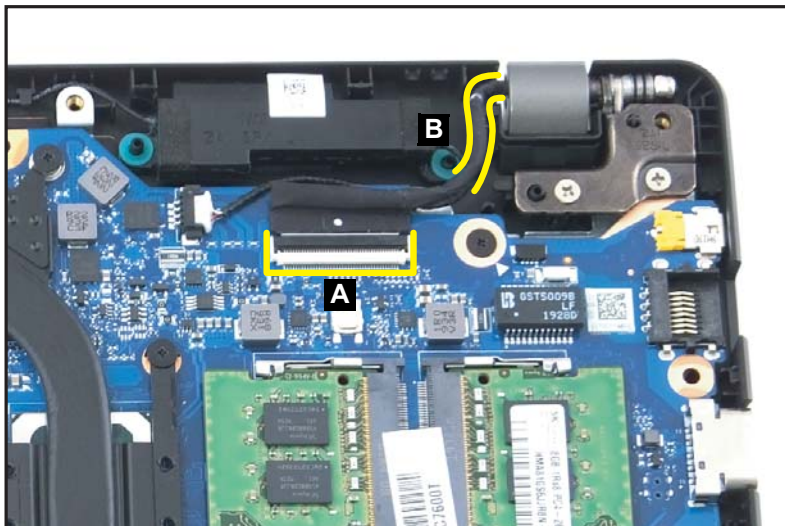

Figure 1-97. Replacing the LCD Module
4. Connect the eDP cable to the mainboard connector (A) and route it through the cable guides (B) (Figure 1-97).